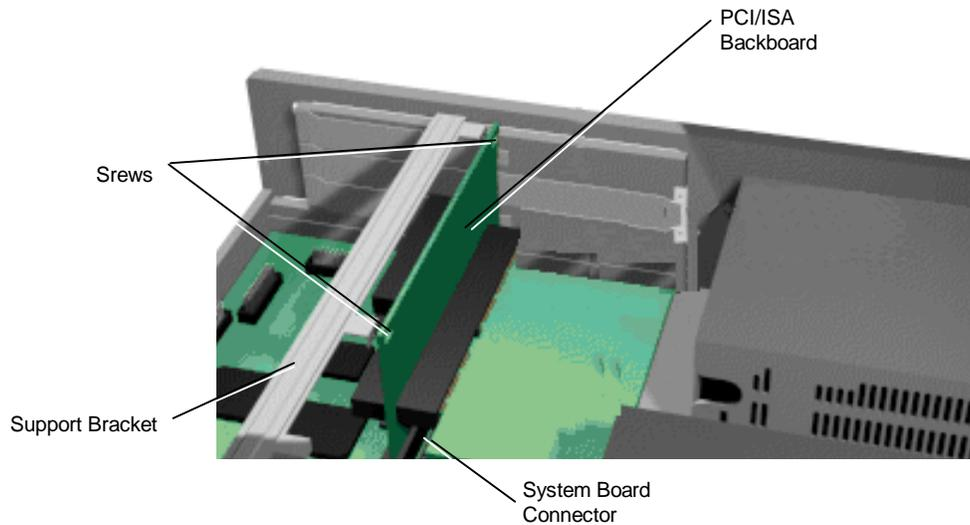

Figure 5-5 PCI/ISA Backboard Screws
2. Remove the two screws that secure the backboard to the support bracket (see Figure 5-5).